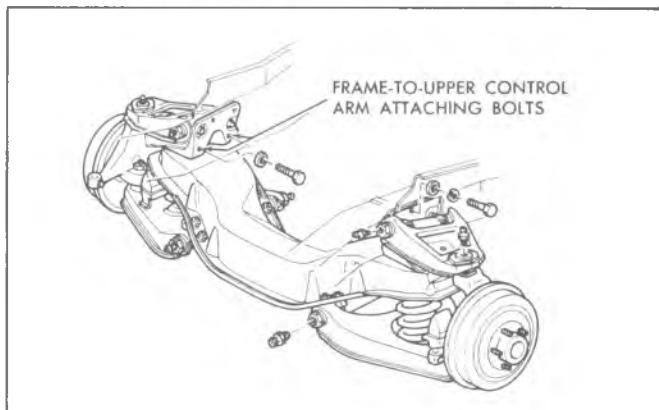

Fig. 4L—Suspension-to-Frame Attaching Bolts
21. Remove the four (2 on each side) frame-to-upper control arm (inside) attaching bolts (Fig. 4L).
26. Remove the four (2 on each side) remaining suspension-to-frame (outside) retaining bolts (Fig. 4L).